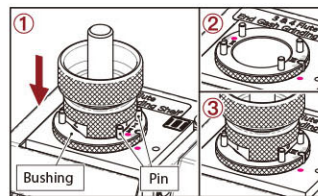

Fig. 8-2
2. 3 Flute End Gash Grinding (II) (Fig. 8-2)
- ① Insert the chuck set into the bushing on the Shelf (II), align Slot No.1 to the two pins where marked as No.(I - II), push the chuck set gently until the grinding noise stops. Turn the chuck set to grind the Slot No.2 in the same way.
- ② Take the chuck set out, turn the bushing to No.(III), align No.(III) to the pin on the shelf, then insert it to the end.
- ③ Insert the chuck set into the bushing, align Slot No.3 to the two pins where marked as No.(III), push the chuck set gently until the grinding noise stops.